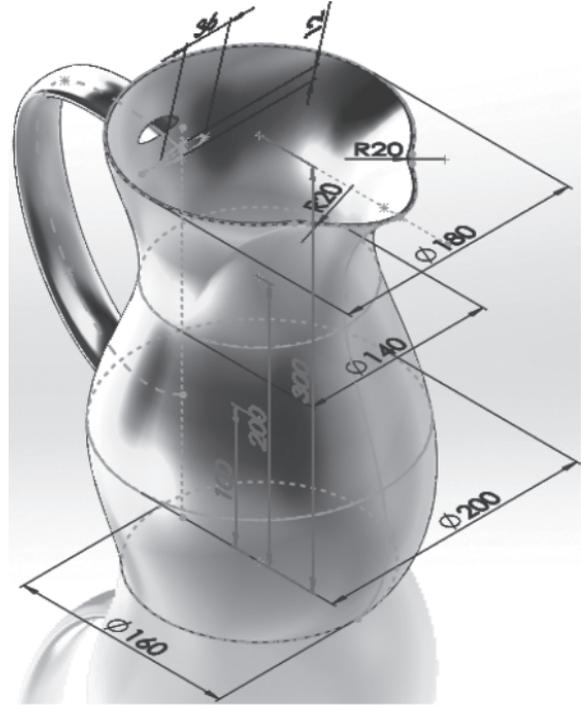

**Figure 4.28**
- 20 Create the CAD models shown in Figure 4.28. All dimensions are in inches.